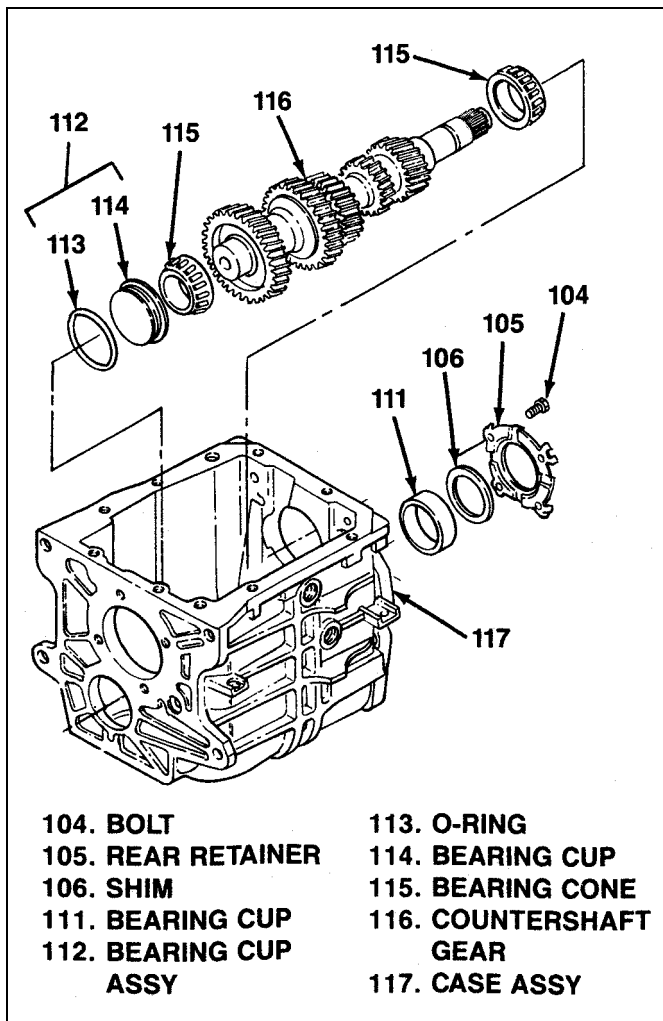
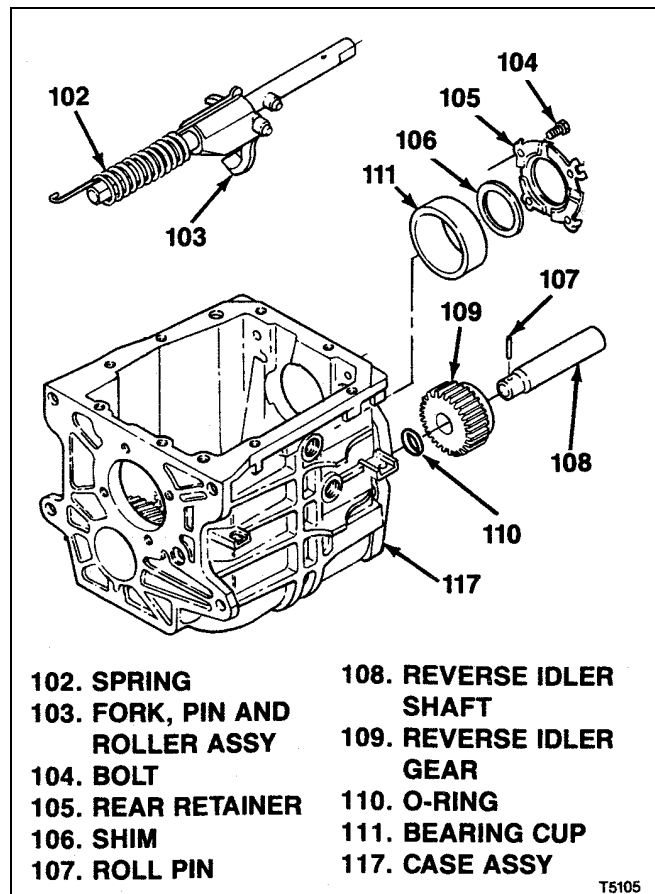

Figure 6-5. T5 WC Countershaft Gear
Figure 6-6. T5 WC Reverse Fork and Idler Gear
6-8. ASSEMBLY AND INSTALLATION OF T5 WC COUNTERSHAFT GEAR (see figure 6-5):
6-9. INSTALLATION OF T5 WC REVERSE FORK AND IDLER GEAR. With assembly completed as described through paragraph 6-8, proceed as follows (see figure 6-6):
- a. Install 5th speed drive gear (55) and blocking ring (54) on end of countershaft gear (116, figure 6-5).
- b. Attach 5th shift fork (51) to shift rail assembly (53) with roll pin (50). Install inserts (52) on 5th shift fork.
- c. Engage 5th shift fork (51) with previously assembled (paragraph 6-7) 5th synchronizer assembly (45) and install together in transmission noting the following:
2. Guide shift rail assembly (53) through reverse fork, pin and roller assembly and spring (103 and 102, figure 6-6) previously installed.
- a. Install 5th synchronizer retainer (44) and snap ring (43).
- a. Install oiling funnel (25) in end of shaft of countershaft gear (116, figure 6-5). Use petrolatum to help hold in place.
- b. Install damper sleeve (21) in offset lever (20).
- c. Make sure plug (19) and detent guide plate (18) are installed in extension (17A) or adapter (17B).
- d. Apply continuous 1/16 in. (1.6 mm) bead of sealant (Neutral Cure RTV, Lactate 598) all around transmission case (117) mounting face for extension (17A) or adapter (17B). Center sealant bead between edges of face. Circle bolt holes.
- e. Lubricate detent guide plate (18) in extension (17A) or adapter (17B) with lithium grease. Position extension or adapter so that it easily can be picked up and installed on transmission.